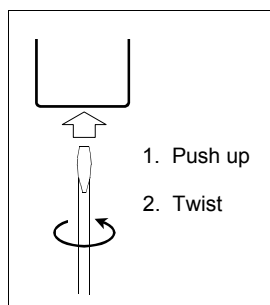

Fig. 2. Opening the case
1. **Open the case.** Remove the GEM-TRANSLP transmitter cover from its mounting plate by inserting a small screwdriver into either slot; twist while applying upward pressure. See Fig. 2.